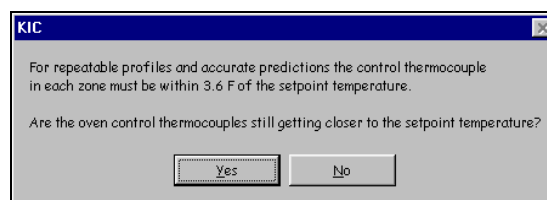

Figure 134
- **No** – The software will ask if the oven is getting closer to the set points. See Figure 134.